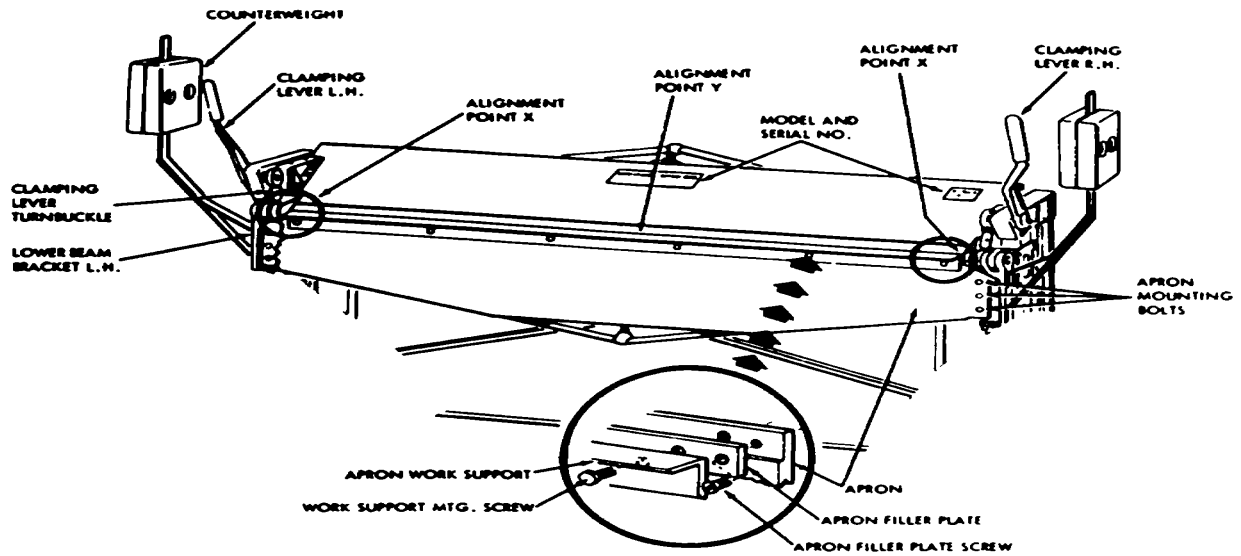
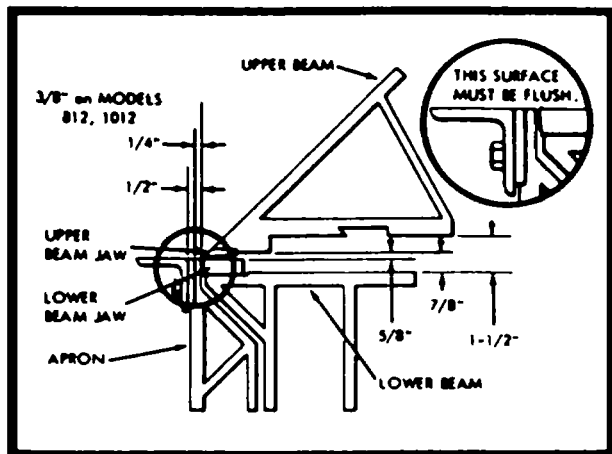
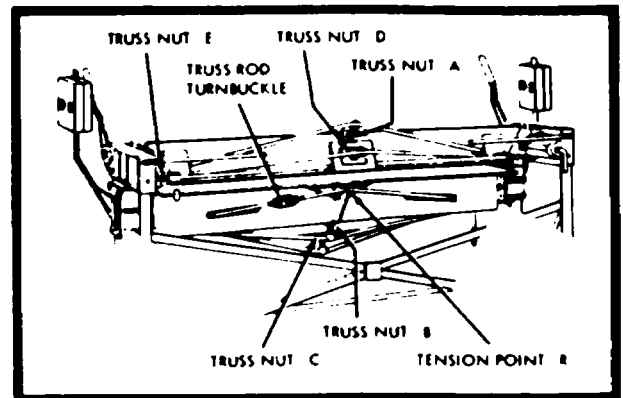

Figure 1. Front View of Brake
Figure 2. Reference Dimensions
Figure 3. Rear View of Brake Showing Tension Adjustment Points
Apron angle iron work support ( see figure 1 ) is removed.
(2.) ADJUSTMENTS FOR BOWING: Refer to figure 3 for location of Truss Nuts.
SOLUTION: Tighten Truss Nut (B). Level the Apron with the Lower Beam Jaw (see figure 2).
(3.) ADJUSTMENT FOR UNEVEN ANGLE OF BED: If 90° sample bend is true at both ends but less than 90° at center of piece, loosen Apron Mounting Bolts (figure 1) and lower the Apron approximately 1/32" by unscrewing the Apron Adjusting Screws. Retighten the Apron Mounting Bolts and tighten Truss Nut (C, figure 3) until both Jaws of brake are flush at brake center (see figure 2).
- (1.) Loosen all Truss Nuts (A,B,C,D,E, figure 3) and Truss Rod Turnbuckle until all tension is released.
- (2.) Tighten the Truss Rod Turnbuckle until the rods are snug at tension point (R). Tighten an additional 1/4 turn.
- (3.) Tighten Truss Nut (B) until snug. Tighten an additional three complete turns.
- (4.) Check Apron at the alignment points (X, figure 1) to see if it is flush with top of Lower Beam Jaw (see inset, figure 1). Up and down movement of the Apron is controlled by turning the Apron Adjusting Screw (figure 1) at each end of the Apron.
- (5.) Tighten Truss Nut (C, figure 3) until Apron is flush with Lower Beam Jaw alignment point (Y, figure 1).
- (6.) Tighten Truss Nut (E, figure 3) as tight as possible.
- (7.) Tighten Truss Nut (A) until the Upper Beam Jaw is straight and parallel in relation to the Lower Beam Jaw.
- (8.) Tighten Truss Nut (D) until the center of the Upper Beam Jaw bows forward slightly.
Remove Apron Angle Iron Work Support and Apron Filler Plate (inset, figure 1). This permits 1/4" reverse bends to be made on all brakes.